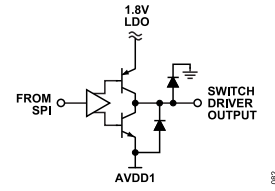

Figure 87. TR_SW_NEG and TR_POL Switch Driver
- ▶ `TR_SW_NEG` for an external negative voltage control transmit or receive switch. Outputs between 0 V and `AVDD1` (nominally -5 V). A push pull output stage allows sourcing or sinking of up to 1 mA (See Figure 87).
- ▶ `TR_POL` for a negative voltage control polarization switch. Outputs between 0 V and `AVDD1` (nominally -5 V). A push pull output stage allows sourcing or sinking of up to 1 mA (Figure 87).